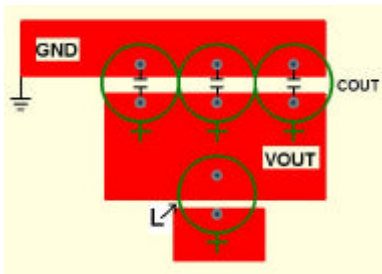

Fig 3. The Placement and Layout on Switching Output Node
- The purple segment is the rectifier and power switch loop as described before. The only difference here is the implementation of synchronous rectifier structure, which improves the efficiency performance a lot. For the layout considerations, care must be taken to make sure the power stage components such as Q1, Q2, L1 and COUT1 as close as possible. Designers sometimes use parallel capacitors in the output filter to minimize voltage ripple in the load and to reduce the circuit's total resistance. However, it's important to ensure that the first parallel capacitor doesn't overheat from conducting a ripple current, which is higher than others. Furthermore, the power trace and return trace in the output stage should be as close as possible. They minimize the loop area between the two traces and increase coupling capacitors, as shown in figure 3.[4]